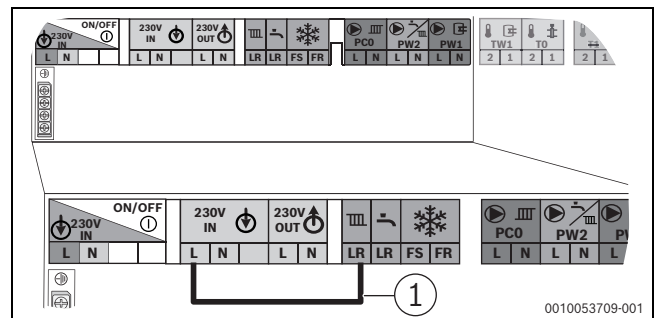

Fig. 32 Connecting the jumper to the terminals in the conventional heat generator (example representation)
- ▶ Connect the jumper between connection **L** and **LR** in the connection strip in the conventional heat generator (→Fig. 32).